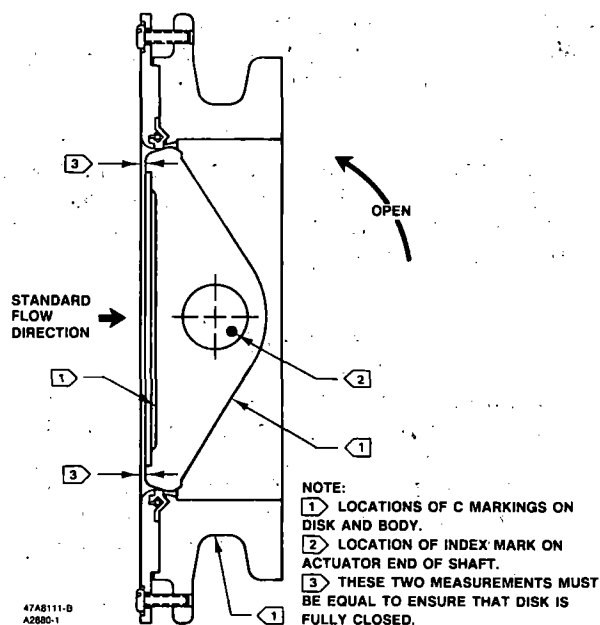

Figure 6. Sectional of Typical Valve Body Viewed from Actuator End
3. Rotate the disk (key 3) to the fully open position.
4. Locate the half of the disk that has two C markings cast into it as shown in figure 6. Drive the two taper pins (key 3C) out toward the C-marked side of the disk. Attempting to drive the taper pins in the opposite direction only tightens the pins.
5. Unscrew and remove the packing flange nuts (key 12), packing followers (keys 15 and 16), and packing flanges (keys 9 and 10) if used, from both sides of the body.
14. Insert the disk into the body. Be certain the taper pin holes in the disk are on the actuator side of the body. Also be certain the letter C stamped on either face of the disk is on the same side of the body as the letter C stamped on the outside of the body (figure 6).